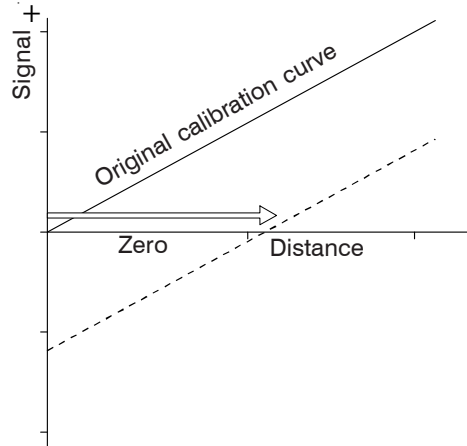

Fig. 5.5: Zero shift of calibration curve
- ➔ Shift the electrical zero by about 30% of the range (Fig. 5.5), re-adjust the Zero potentiometer for this.